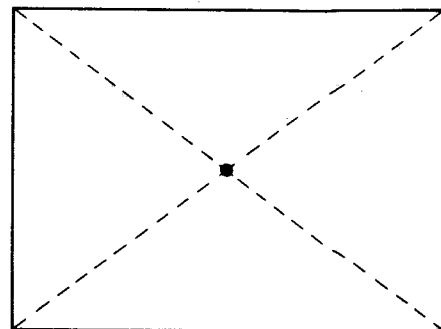

Fig. 5-156.
- (1) Put a mark on the mechanical center on picture tube face. (See Fig. 5-156.)
- (4) Put a mark on the mechanical center of the picture tube. (See Fig. 5-156.)
- (5) Set up the UNDERSCAN mode.